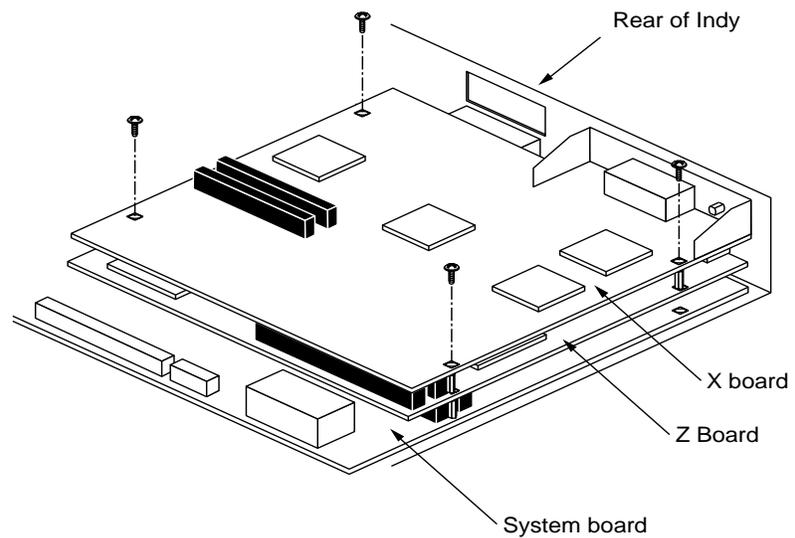

Figure 2-25 Inserting the Screws on the X Board
- Using the Phillips screwdriver, insert and tighten the four screws in the locations shown in Figure 2-25. As you tighten the screws, alternate among them so that the board is fastened evenly.